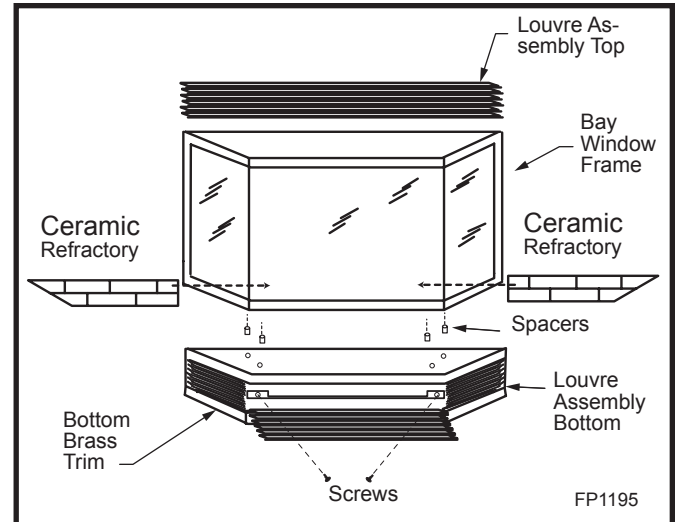

Fig. 29 Bay window.
4. Place the 2 pieces of ceramic refractory along the base of the bay window. (Fig. 29)